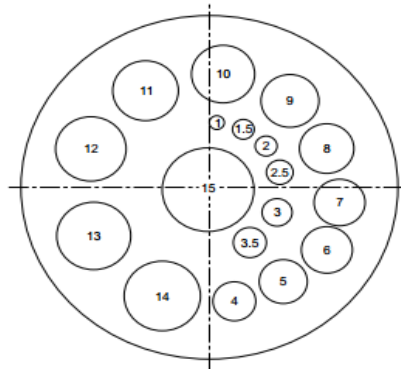

Fig. 1.17: Circle Master
- iv. **Circle Master:** - Circle master is used to draw of small size circles which are not possible to draw by compass. It consists of different size of circles. It is also used to increase the speed of drafting. It is made of plastic material in various sizes as shown in Fig. 1.17 (III).